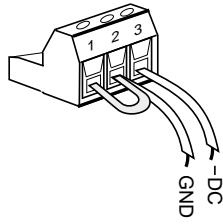

Figure 2 3-position terminal strip showing DC output connected for a positive ground scheme.
**3.6 SELECTING THE DESIRED DC OUTPUT SCHEME** As mentioned previously, the DC output is floating (isolated) in respect to earth ground. The DC output can be connected to the equipment to be powered in this manner, or it can be referenced to earth ground. In telecommunications applications it is typical to utilize a positive ground, with the output configured to be -48Vdc in respect to earth ground. This is easily accomplished by strapping terminal strip pin 1 (ground) to pin 2 (+DC) and using this combination as the ground connection to the load, shown in Figure 2. The -48Vdc is then connected from pin 3 (-DC) to the load. Note that pin 1 is internally connected to the Model 713 chassis and the safety ground wire of the mains power cord.